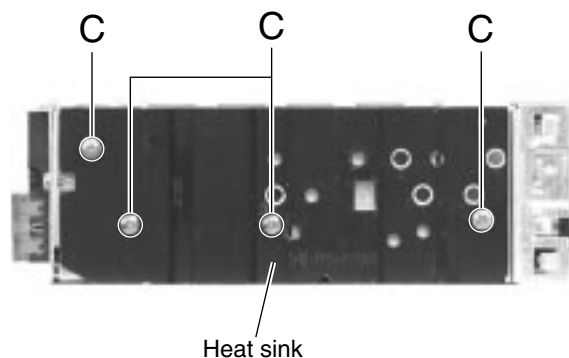

Fig. 6
■ **Removing the heat sink (See Fig.6)**